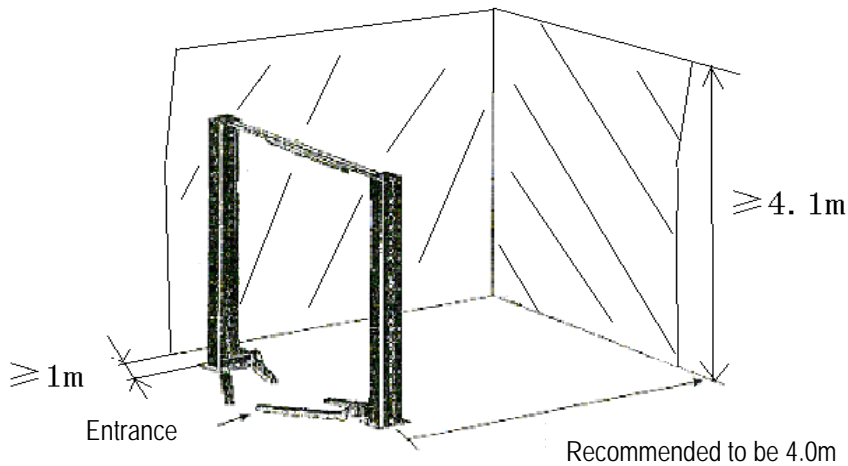

Fig. 5
- The front and back of the lift should be reserved with sufficient space to accommodate all the vehicles (Fig. 5).